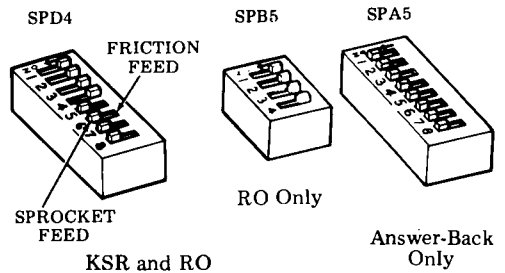

Fig. 2—Standard Switch Positions
1.08 The option switches are factory optioned and should not be changed unless the local requirements specify incorporating a non-standard option (Fig. 2).